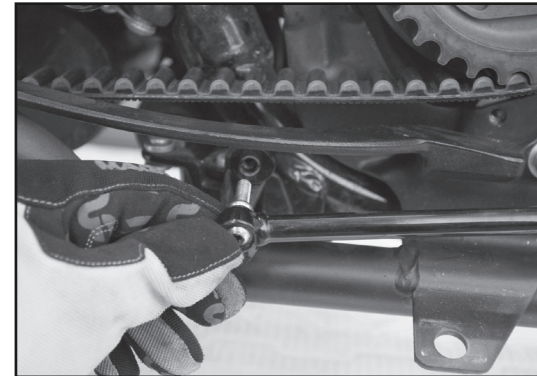

Fig. 3
7. Remove the foot controls along with the brake rod by removing the T30 screw or e-clip from the rear eyelet. (Figure 3)